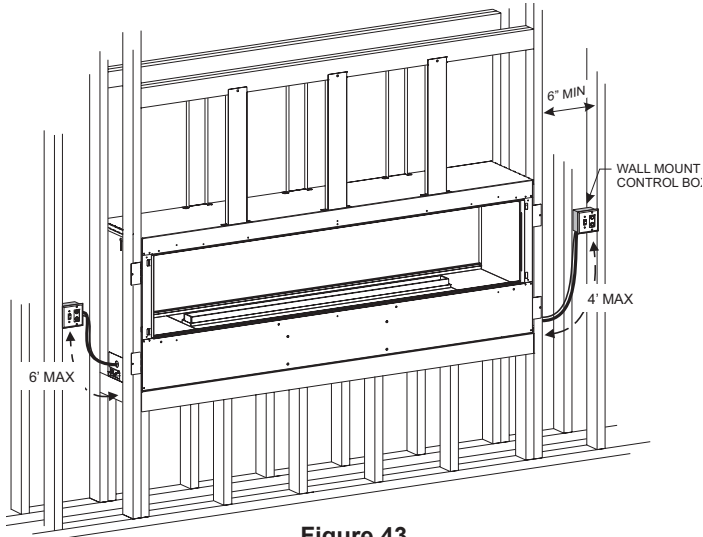

Figure 43
12. Install the wall-mounted control box within 6 feet to the left side or 4 feet from the right. See Figure 43.